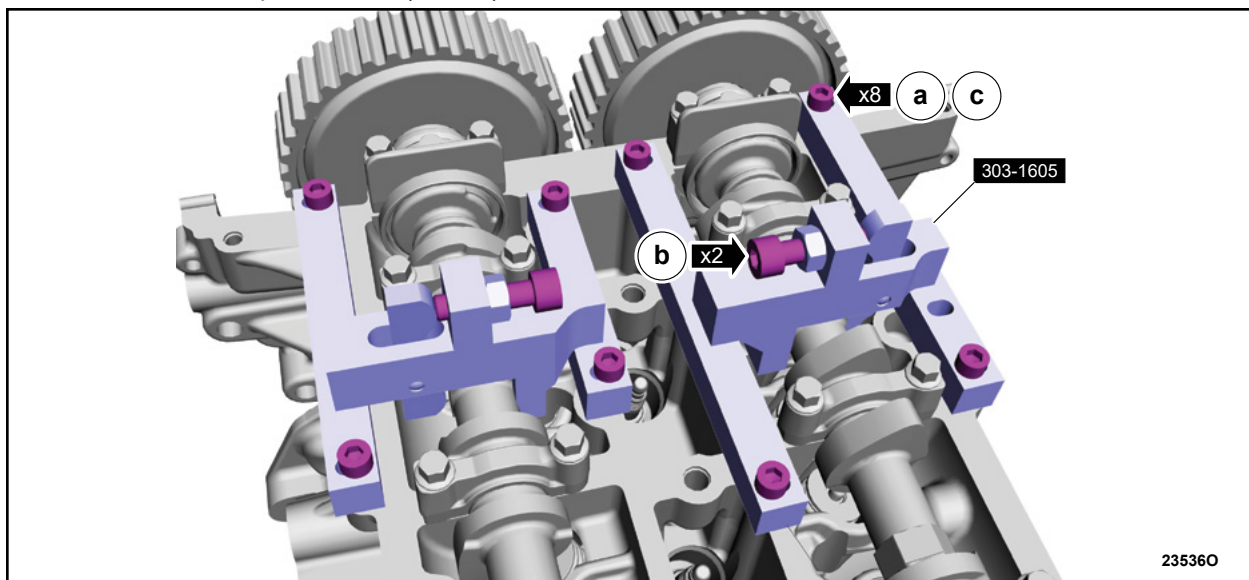

FIGURE 2
7. Install the special service tool. Use Special Service Tool 303-1605 Alignment Tool, Camshaft. See Figure 2.